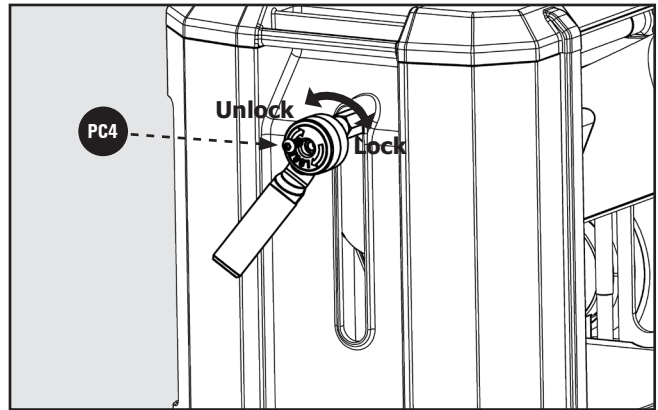
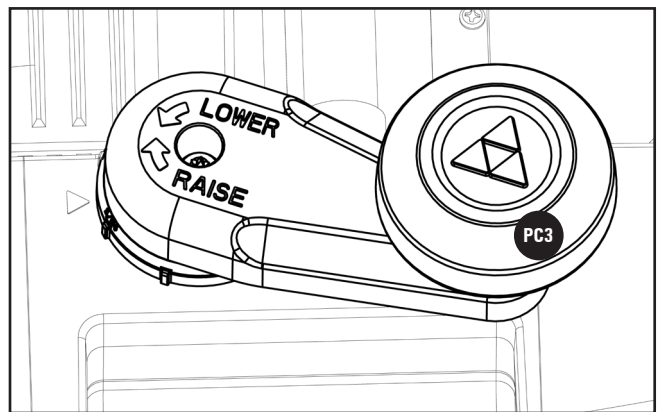

FIGURE 13
FIGURE 14
The cutterhead lock **PC4**, see Figure 13, prevents the cutterhead depth from being able to change. This helps to eliminate snipe in the board that is being planed. Snipe can also be eliminated by butting boards end to end and feeding them through the planer. Long boards should **ALWAYS** be supported, when feeding them through the planer to help eliminate snipe.
1. To adjust the main housing, unlock the cutterhead lock handle **PC4**, see Figure 13. Turn the cutterhead height adjusting handle **PC3** clockwise to raise or counterclockwise to lower the cutterhead. One revolution of the handle in Figure 14 will move the cutterhead up or down 1/16 inch (1.6mm). Once the cutterhead is at the desired height, lock the cutterhead assembly in place by engaging the cutterhead lock handle.